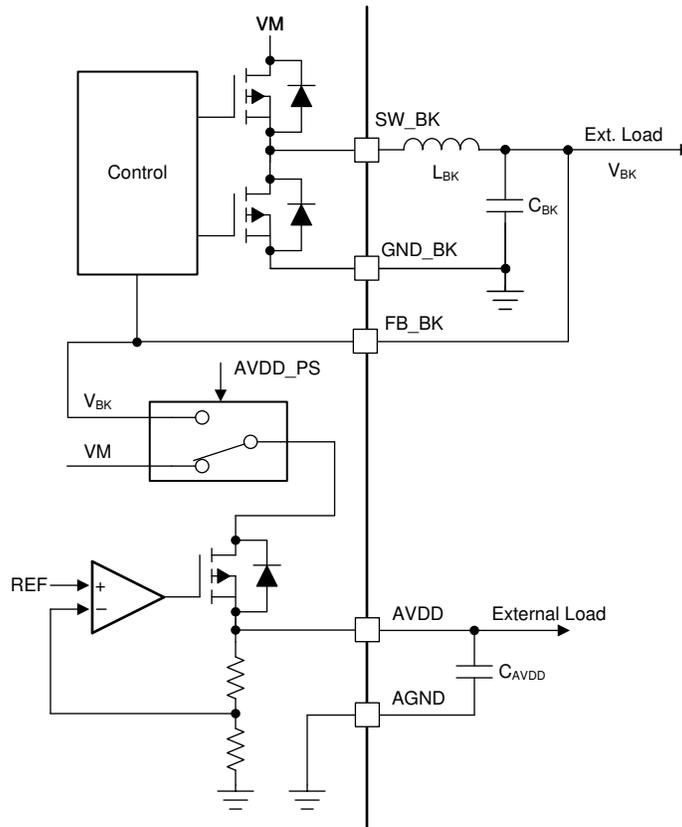

Figure 8-12. LDO Power Sequencing on Buck Regulator
The LDO of DRV8316R and DRV8316T devices has an option of accepting the power supply from buck regulator to reduce power dissipation. The power sequencing mode in the DRV8316R and DRV8316T device allows on-the-fly changeover of the LDO power supply from the DC mains (VM) to buck output (VBK) as shown in Figure 8-12. This sequencing automatically happens in the hardware device when the buck voltage is set to either 5V or 5.7V. For disabling the power sequencing in the SPI device, set the BUCK_PS_DIS bit to 1.